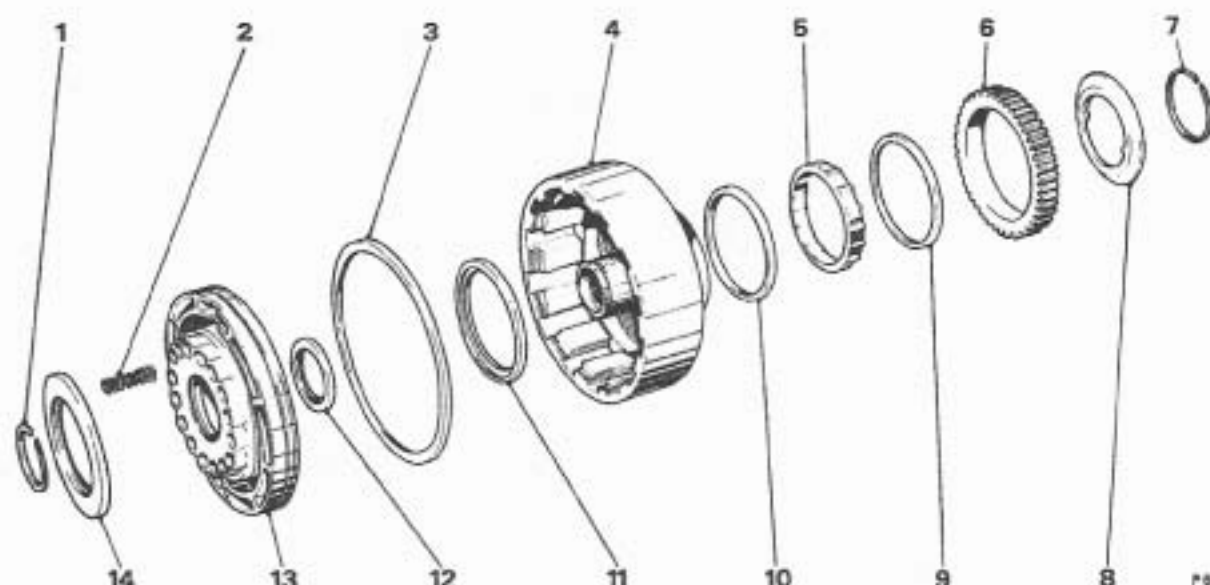

FIG. T248 DIRECT CLUTCH AND INTERMEDIATE SPRAG ASSEMBLY
2. Remove the retainer (see exploded view in Figure T248).